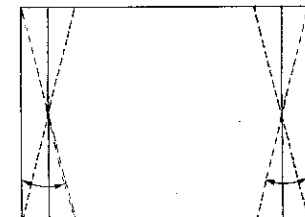

fig. 6
- Adjust the E-W TRAPEZOID to obtain condition as in fig. 6.